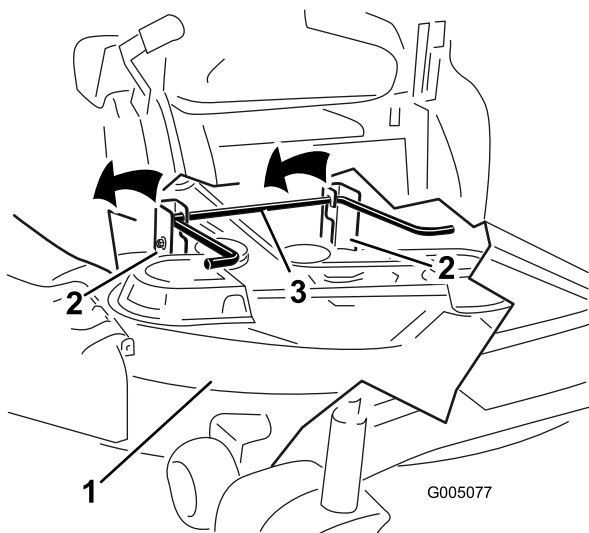

Figure 60
5. Lift the mower deck and hanger brackets clear of the rear lift rod, and lower the mower carefully to the ground (Figure 60).
5. Lift the rear of the mower deck and guide the hanger brackets over the rear lift rod (Figure 60).